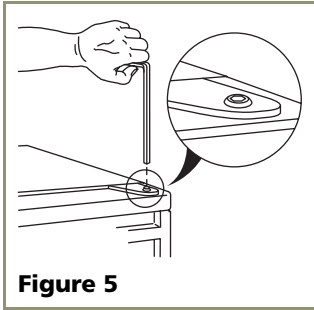

Figure 5
1. Remove top hinge screw pin from door (7/64" Allen wrench or Phillips screwdriver, depending on your unit's construction) (see **Figure 5**). Remove door by tilting forward and lifting off bottom hinge pin.